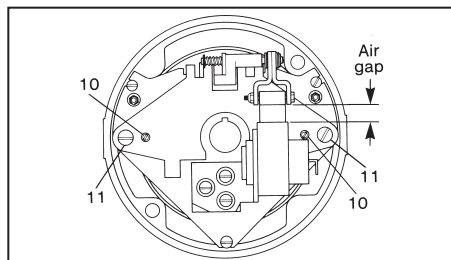

Figure 7
**Note 1:** Both adjustment screws (11) on Figure 7 must be turned equal amounts counterclockwise to decrease torque.
- Manually lift solenoid plunger to maximum travel. Depress and allow solenoid plunger to snap out several times. See Figure 7. Measure solenoid air gap between mating surfaces of solenoid frame and solenoid plunger. (On vertically mounted brakes, it will be necessary to push solenoid plunger into solenoid frame to the point where spring pressure is felt, before measuring solenoid air gap.) As friction disc wear
- The solenoid air gap may be decreased by turning both wear adjustment screws (10) equal amounts clockwise, approximately 1/8 turn, until approximate solenoid gap is attained. Counterclockwise rotation will increase gap. See Figure 7. Repeat Step 2.